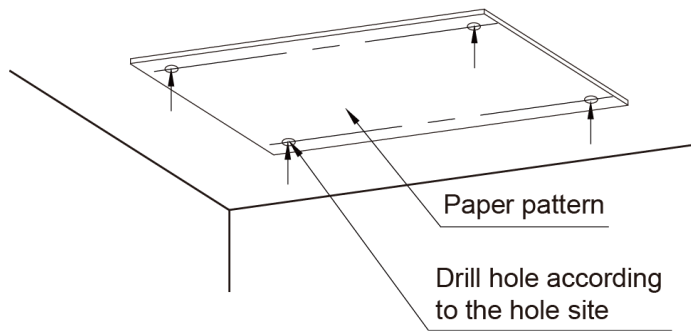
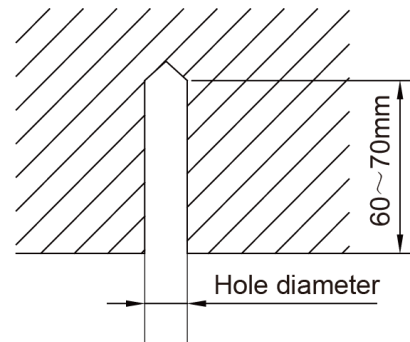

Fig 4.1.3
Fig 4.1.4
- 1) Stick the reference cardboard on the installation position; drill 4 holes according to the hole site on the cardboard as shown in fig 4.1.3; diameter of drilling hole is according to the diameter of expansion bolt and the depth is 60-70mm, as shown in fig 4.1.4.